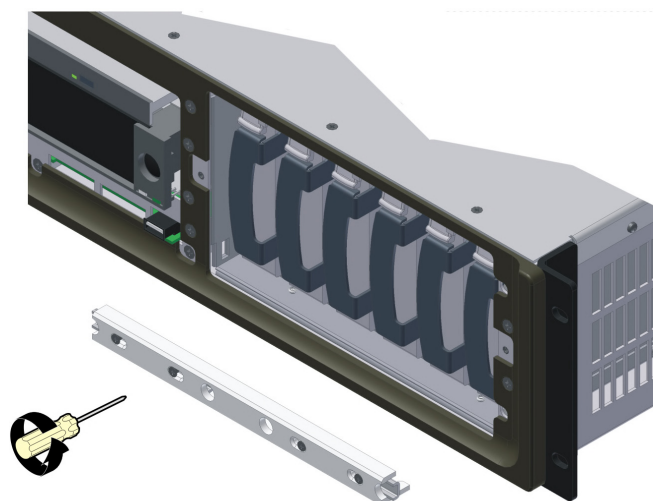

Figure 4-15 Removing the DSL100 Retaining Bracket
3. Use a Phillips screwdriver to loosen the four screws that secure the drive retaining bracket, then remove the bracket as shown in Figure 4-15.